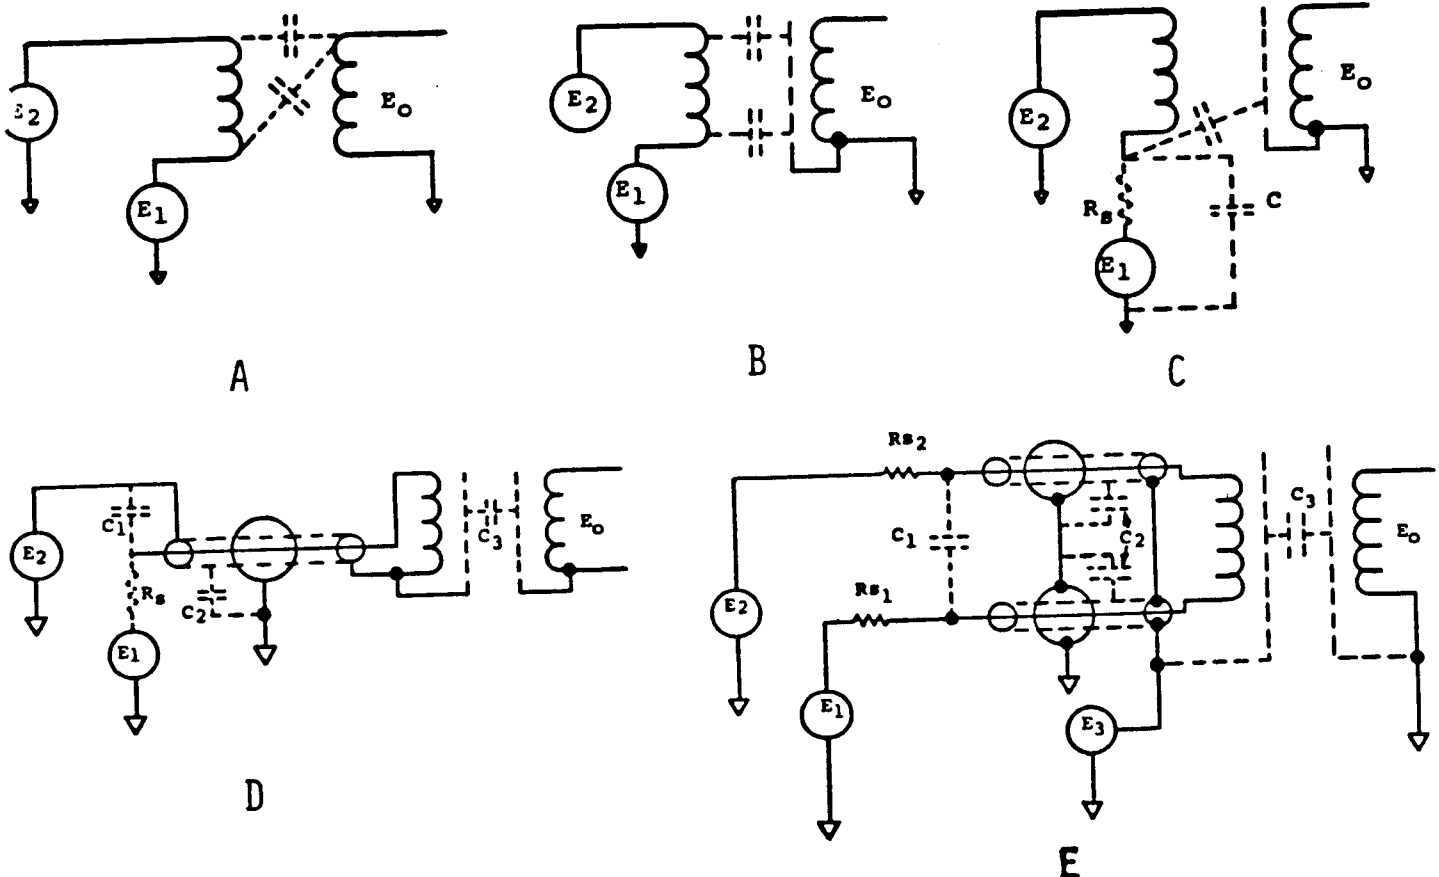

Figure 3-2. Differential Measurements and Common Mode Rejection
a transformer, there are two sources of error. One is due to capacity from either side of the primary to the high side of the secondary as shown in figure 3-2 (A). This can result in an output even if $E_1 = E_2$. Due to coupling into the output impedance of the secondary, this effect is minimized if a secondary shield is used, connected as shown in figure 3-2 (B). Note that these capacitors are now capacitors to ground and will cause no coupling to the secondary.
The other source of error is capacity to ground, phase shifting the signal from a source with a finite source impedance as shown in figure 3-2 (C). This also can cause an output even if $E_1 = E_2$.
This effect is minimized if a double shielded wire and a primary shield is used as shown in figure 3-2 (D). This will con-
If it is desired to make differential measurements when high source impedances are present in both input leads, it is sometimes possible to drive the primary shield at a voltage equal to E_1 and E_2 . This, in effect, places C_3 and C_2 across a third source, independent of the voltages being measured. This is shown in figure 3-2 (E).